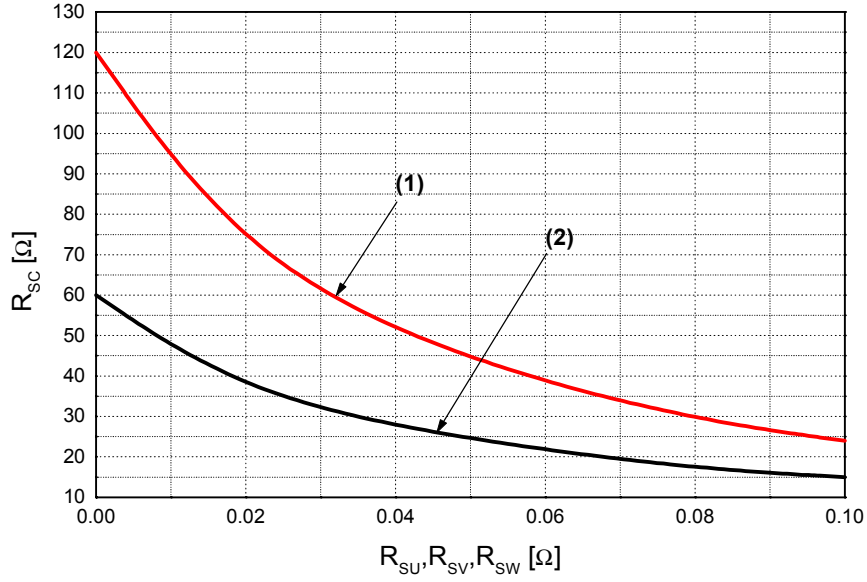

Fig. 6. R_{SC} Variation by change of Shunt Resistors (R_{SU}, R_{SV}, R_{SW}) for Short-Circuit Protection
- Short-circuit current protection is functioning only at the low-sides. It would be recommended that the value of the external sensing resistor (R_{SC}) should be selected around 60 Ω in order to make the SC trip-level of about 22.5A at the shunt resistors (R_{SU}, R_{SV}, R_{SW}) of 0Ω. For the detailed information about the relationship between the external sensing resistor (R_{SC}) and the shunt resistors (R_{SU}, R_{SV}, R_{SW}), please see Fig. 6.